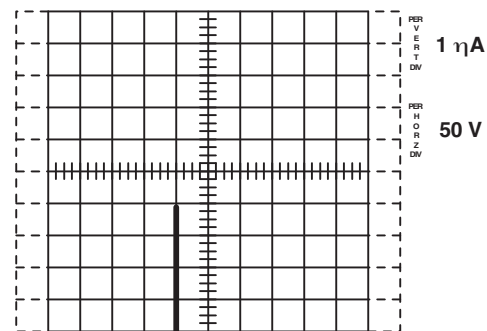

Fig. 3 - Drain-source breakdown voltage
2. Connect the device using the **left/right** switch and adjust the collector supply voltage to the rated voltage of the Power MOSFET (200 V for the IRF630). Read the value of I_{DSS} from the display (see figure 3). The vertical sensitivity may need altering to obtain an appropriately sized display. Often I_{DSS} will be in the nA range and the current observed will be capacitor currents due to minute variations in collector supply voltage.